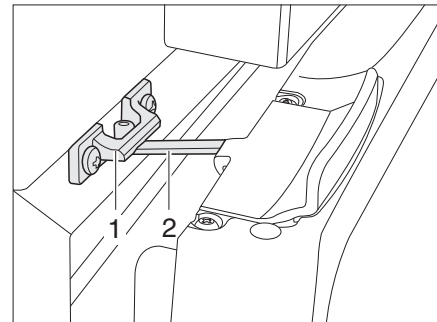

Fig. 134 Refrigerator door in ventilation position (Thetford)
- Open the lock (Fig. 134,2) and snap it into the locking catch (Fig. 134,1). The refrigerator door will then stay slightly open.